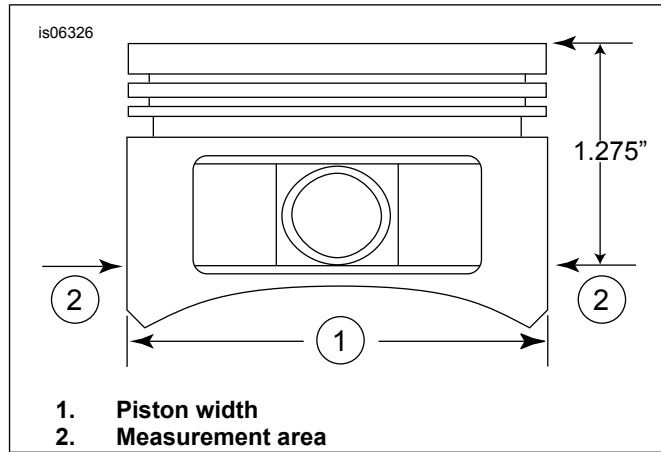

Figure 2. Piston Measurements
5. See Figure 2. Measure the piston width (1), 90 degrees horizontally from both sides of the piston pin hole and 1.275 in. down from the deck surface (top) of the piston (2). See table 11 for piston-to-cylinder fit at this location.